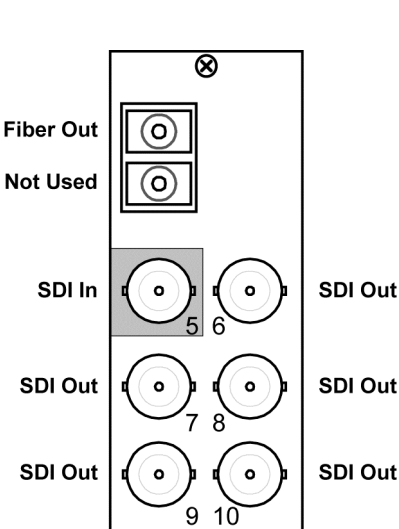

Figure 2.7 Cable Connections for the **R2-6602** Rear Module
- **R2-6602** Full Rear Module — Each 9212-EO occupies two slots and provides an optical output, an SDI input, and five SDI outputs. Refer to **Figure 2.7**.